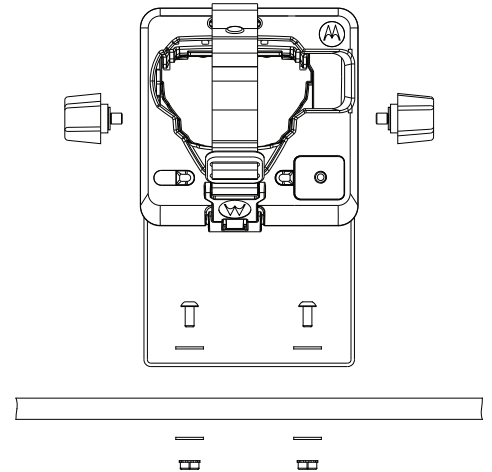

Figure 1 Installing the Vehicle Charger
6. Referring to Figure 1, mount the bracket using appropriate screws, washers, lock washers, and nuts.
5. Insert the unit into the bracket, and install the washer and threaded knob into the housing, as shown in Figure 1.